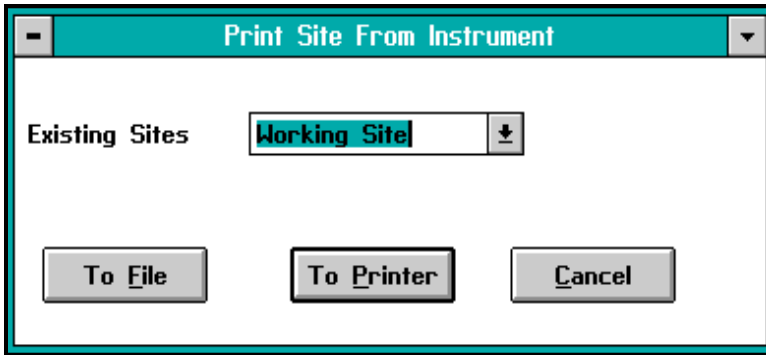

Figure 5-4: Print Site Setting
2. Select the **Print Site** command (**ALT+S** and **ALT+P**). (See Figure 5-4 above.)